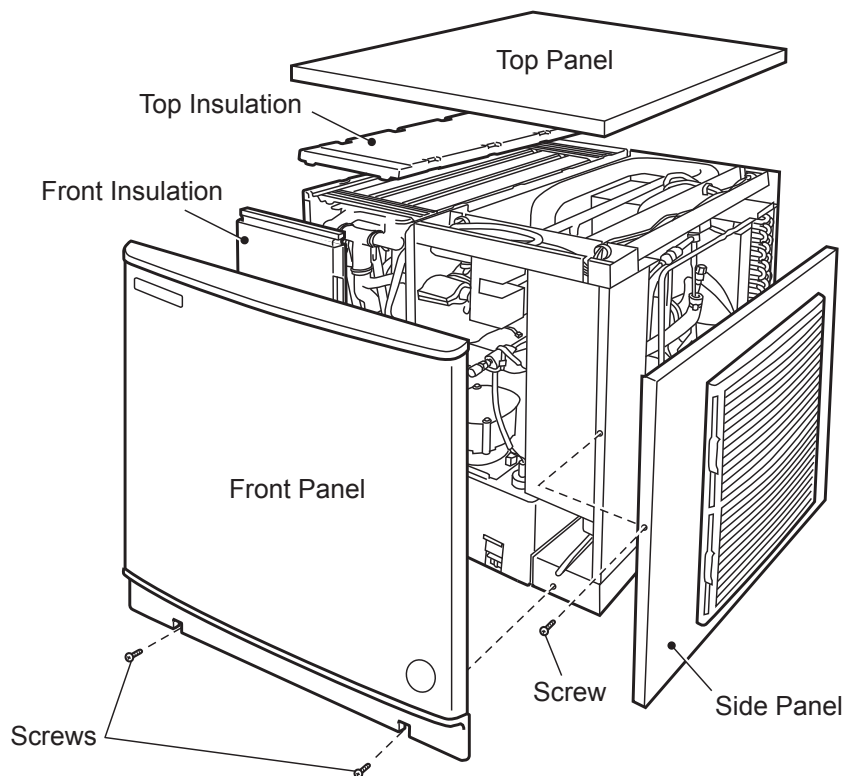

Fig. 1
B. How to Remove Panels - See Fig. 1
- * Side Panel (R): Remove the screw. Slide forward slightly and lift off.
Do not use the side frame to lift the icemaker. See Fig. 1. Lift the icemaker from the base.